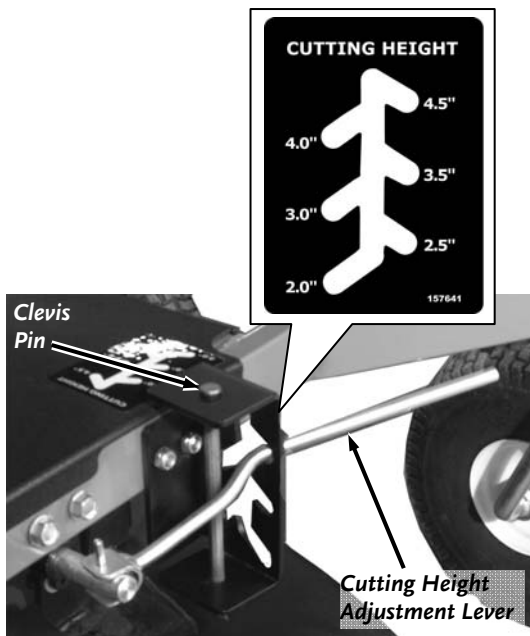

Figure 10
1. To change height settings, remove the Clevis Pin and re-position the Cutting Height Adjustment Lever. After adjusting to a new height, re-insert the Clevis (**Figure 10**).